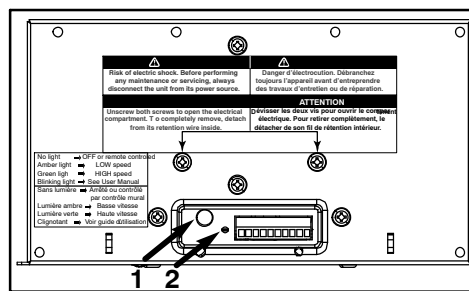

Fig. 9 – Integrated Control
All units are equipped with an integrated control, located under the unit, in front of the electrical compartment. Use the push button (1) to control the unit. The LED (2) will then shows on which mode the unit is in. Integrated Control overrides Wall Control function. When LED is off, ventilator responds to Wall Control command. See Fig. 9.